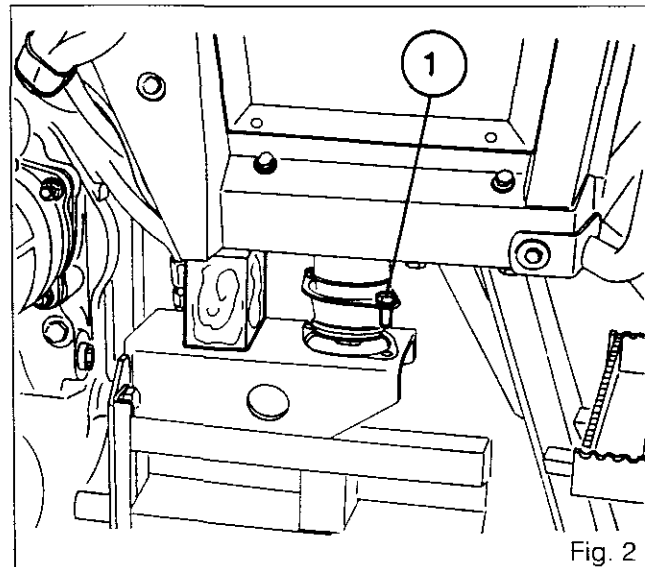

Fig. 2
10. Slacken the four 10 diam. bolts **(1)** (Fig.2) on the rubber dampers on the RH and LH cab supports, raise the cab slightly (low profile cab) and position chocks under it.